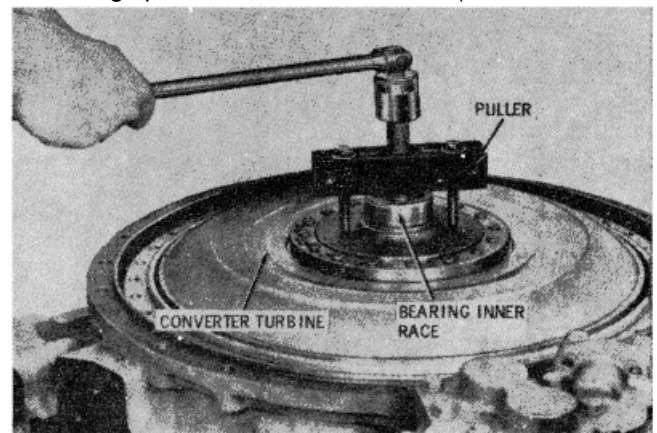

Figure 15-49. Removing Torque Converter Turbine
2. Using a turbine puller, remove the converter turbine and the inner race of the front cover bearing (Figure 15-49).